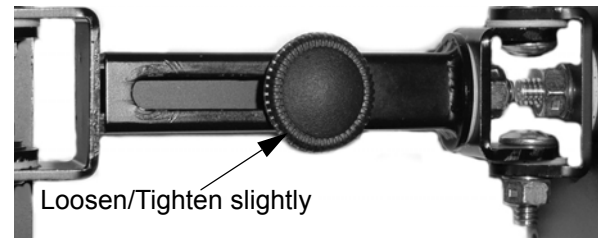

Figure 4. Arm Length Adjustment Knob
1. Loosen, slightly, the adjustment knob on the arm (see Figure 4).